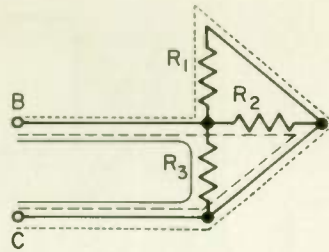

Fig. 14
2. Parallel ... Each of the three paths in Fig. 14 passes through one and only one resistor.